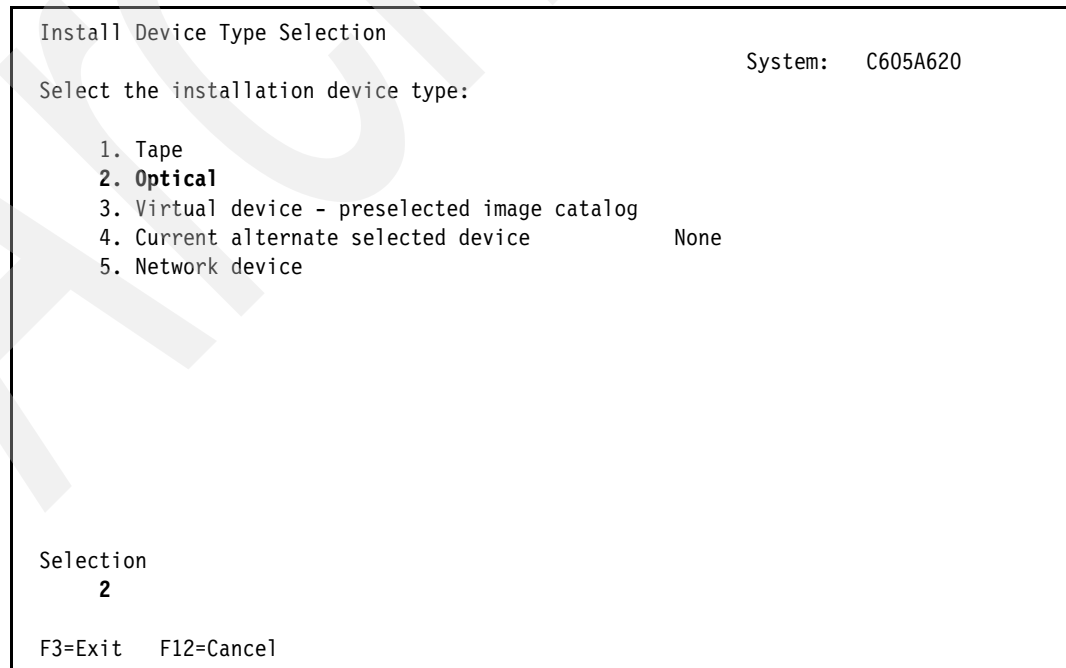

Figure 6-76 Install Device Type Selection panel
15. We select **2. Optical** on the Install Device Type Selection panel to proceed with installing the IBM i 6.1 operating system from the VIOS partition's virtualized DVD-RAM, drive as shown in Figure 6-76.